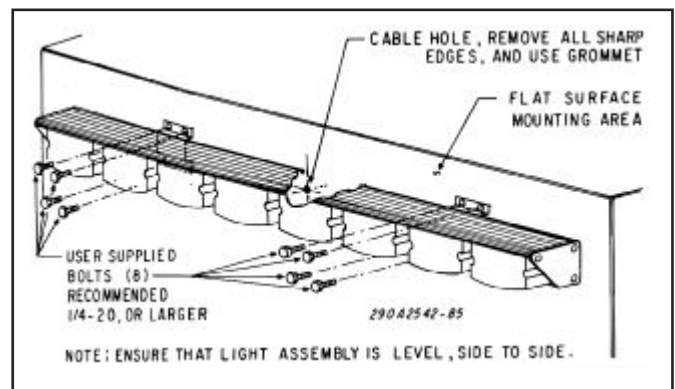

Figure 2.
2. See Figure 2. Position the assembled unit on the mounting surface. Ensure that it is level side-to-side. Using the brackets as a template, scribe mounting hole locations on the mounting surface. Also, scribe a cable routing hole location on the mounting surface.